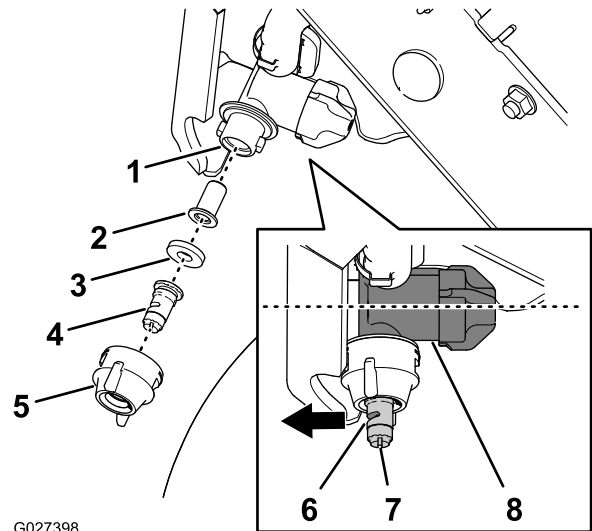

Figure 49
1. Rotate the nozzle cap 90° counterclockwise and remove the cap from the nozzle body (Figure 49).
2. Remove the sprayer tip, gasket, and strainer from the nozzle body (Figure 49).
4. Assemble the strainer into the nozzle body (Figure 49).
5. Assemble the sprayer tip and gasket into the nozzle cap (Figure 49).
6. Install the tip, gasket, and cap onto the nozzle body (Figure 49).
Note: Use the slot to rotate the atomizer (Figure 49) of the sprayer tip forward (in-line with the flow-regulator case of the nozzle body).
7. Rotate the nozzle cap 90° clockwise (Figure 49).